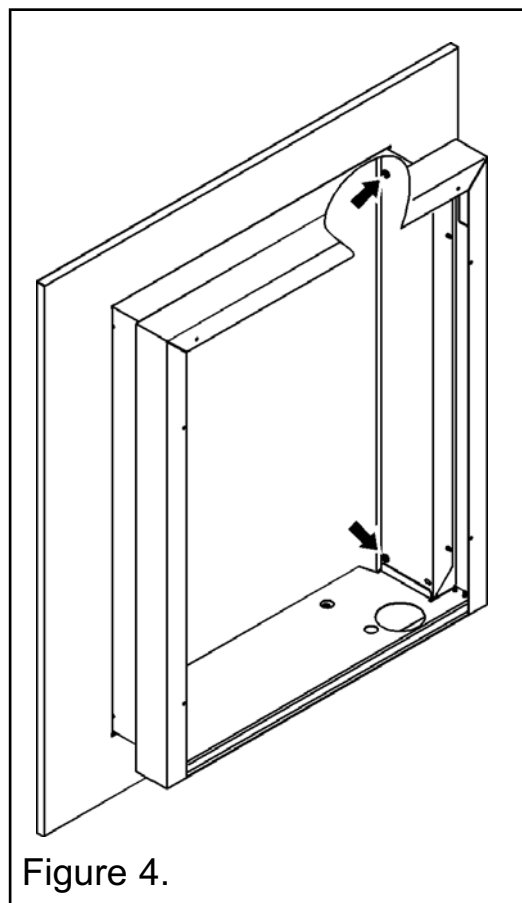

Figure 4.
Method 1 of 2 - Fitting the Inner frame forward of the builders opening (See figure 4).
2. Align the four holes at the rear of the inner frame assembly with those in the flanges of the rear panel (See figure 4).
2. Unscrew and remove the four M4 x 6mm screws that secure the inner frame assembly to the rear panel (See figures 4 & 5). Gently pull the inner frame assembly forward and clear of the rear panel.